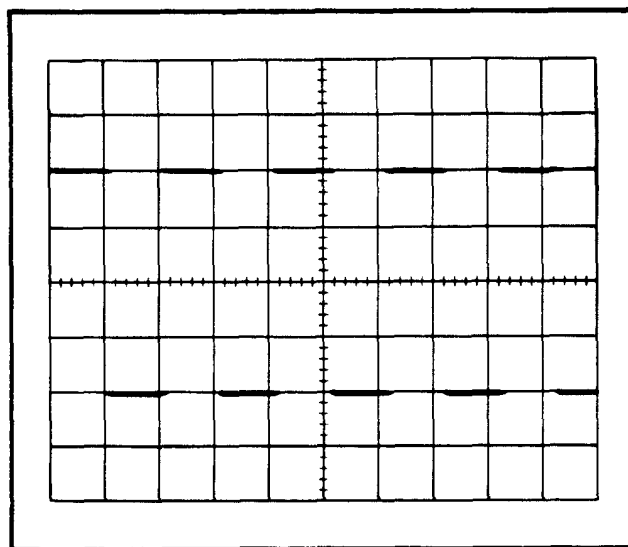

Fig. 5-2. Typical CRT display showing correct vertical gain. Vertical deflection, 0.05 volts/division.
- e. CHECK—CRT display four divisions  $\pm 0.12$  division, in amplitude (error  $\pm 3\%$ ; see Fig. 5-2).